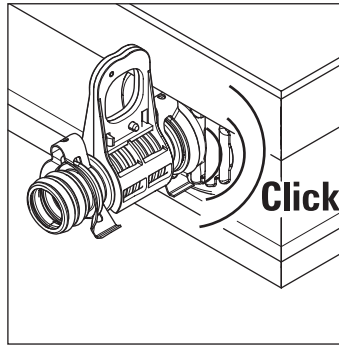

Fig. 3-24 Clicking the expansion joint in position
5. Insert the expansion joints in the connection pipes of the last mounted solar panel until the retaining clamps click in place (Fig 3-24).